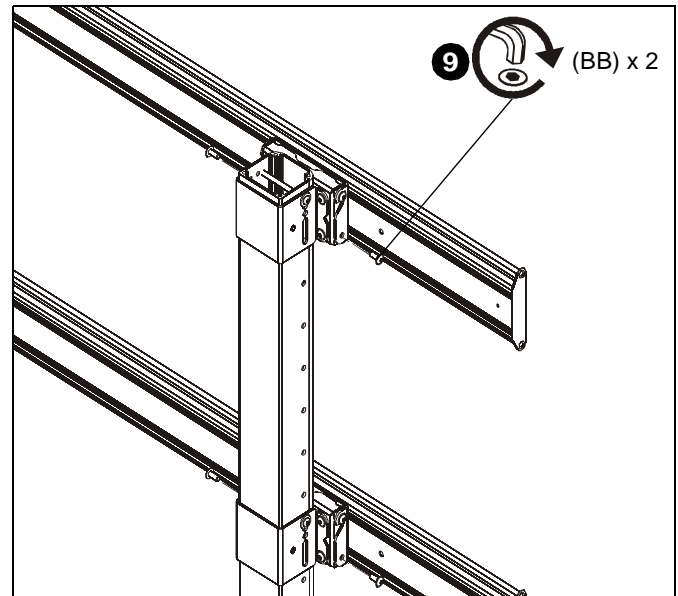

Figure 10
- Install two 5/16-18 x 3/4" button head flange screws (BB) into the lower holes on each quick connect base (Q) to secure rails to quick connect bases. (See Figure 10)
- Tighten all 5/16-18 x 3/4" button head flange screws (BB).